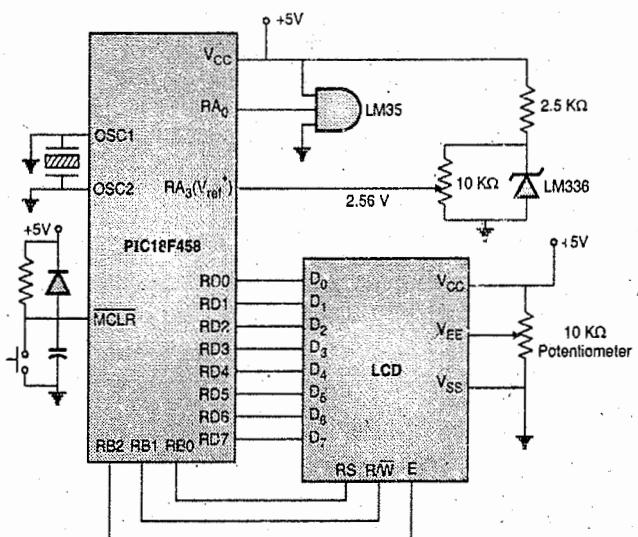

Fig. P. 10.6.8(a) : Interfacing diagram of PIC18F458 based data acquisition system for measurement of temperature
- Fig. P. 10.6.8(a) shows the interfacing diagram of PIC18F458 with LM35 temperature sensor.